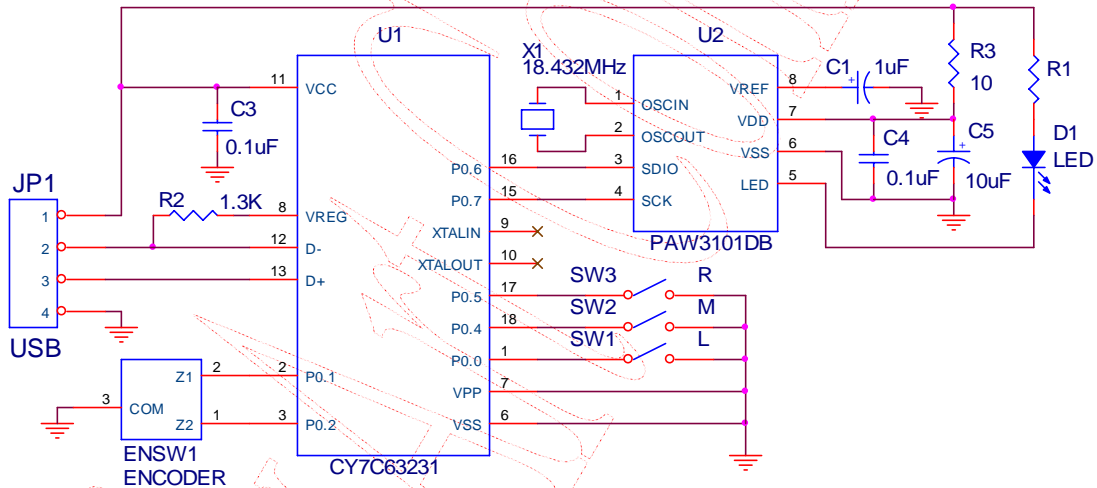

Figure 12. 5V Application Circuit with Internal LED Control
- R1 value (ohm) for internal LED control, VDD = 5.0V (refer to Figure 12)